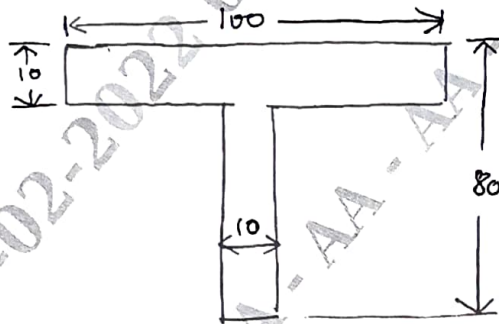

Fig. Q7 (a)
- 7 a. Determine the buckling load for a strut in Fig. Q7 (a). The strut is 3 mts long and is hinged at both ends. Take  $E = 200 \text{ GN/mt}^2$ . (10 Marks)